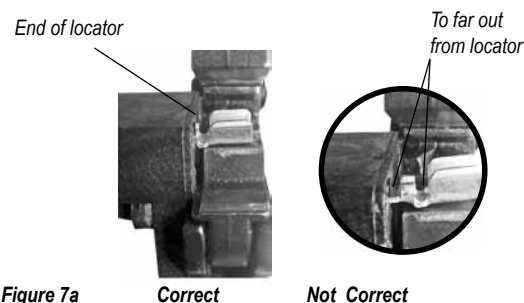

Figure 7a
3. Place contact in die end of modular locator. Insert contact fully until the wire stops on the contact are recessed into the locator (See Figure 7a).